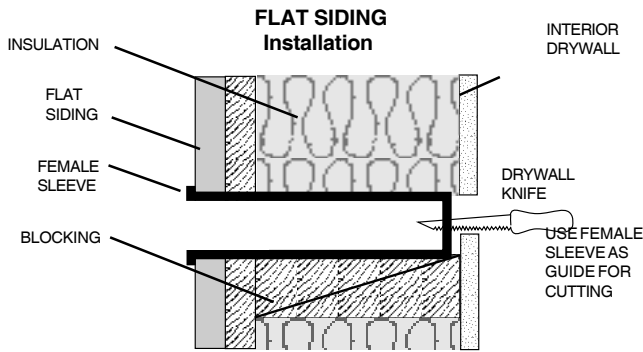

FIGURE 2
**2.1.4** After the drywall has been installed, cut the opening for the male sleeve with a hand drywall knife, following the interior of the female sleeve as a guide. See figure 2.